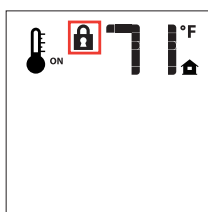

Figure 56 - Remote Control Displaying Key Lock Mode
1. To activate this function, press the MODE and UP keys at the same time. A lock icon will appear on the LCD screen (see Figure 56).